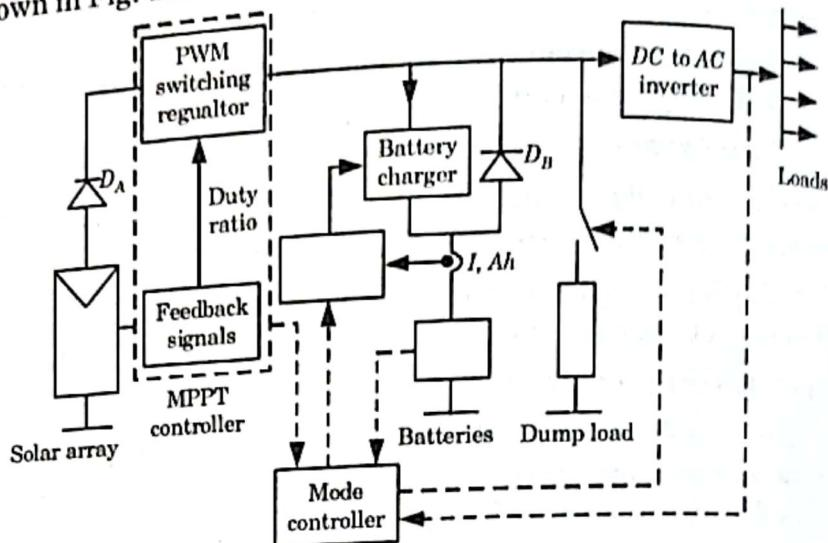

Fig. 1.15.1. A general stand-alone or autonomous solar PV system.
6. The main components of a general stand-alone solar PV system are shown in Fig. 1.15.1.